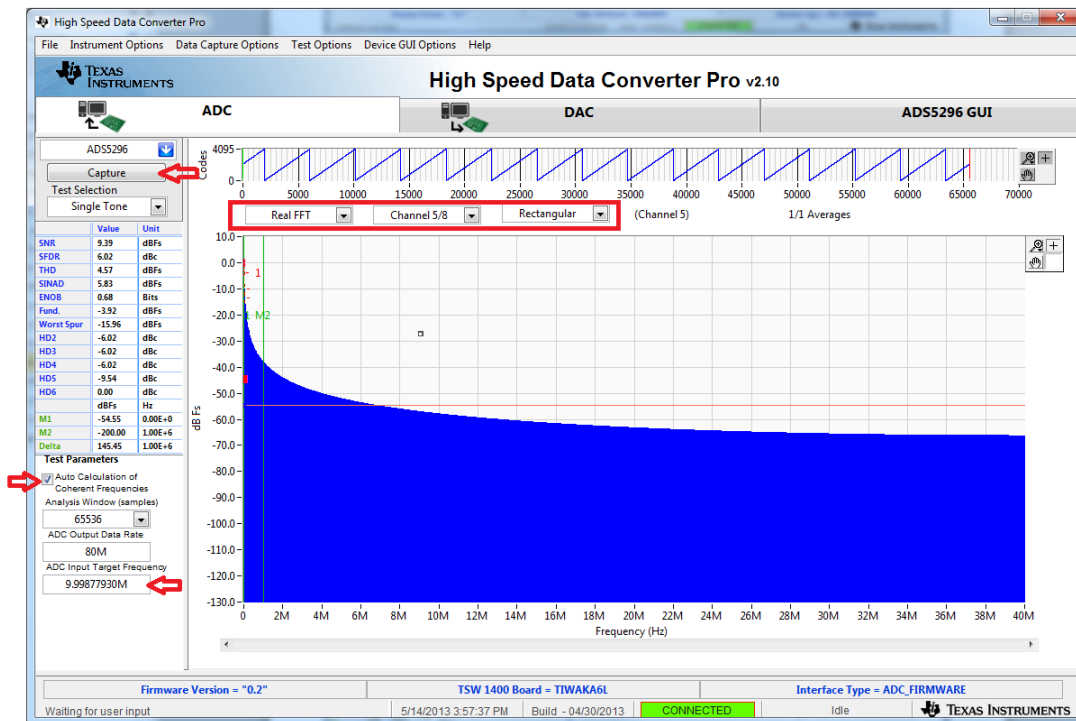

Figure 40. HSDCpro GUI Setup for Octal Non-Interleaving Mode (b)
4. Click on the *ADC* tab and perform the following steps as illustrated in Figure 40.